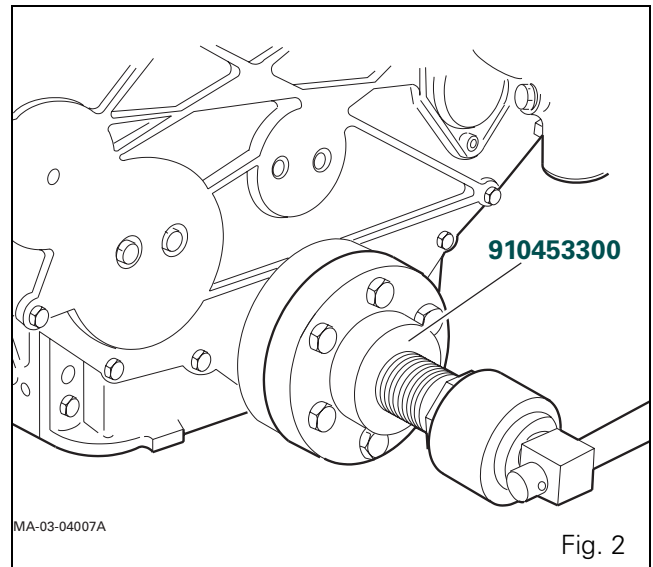

Fig. 2
4. Fit the extracting tool (service tool ref. 910453300) onto the crankshaft hub and extract the hub (Fig. 2).